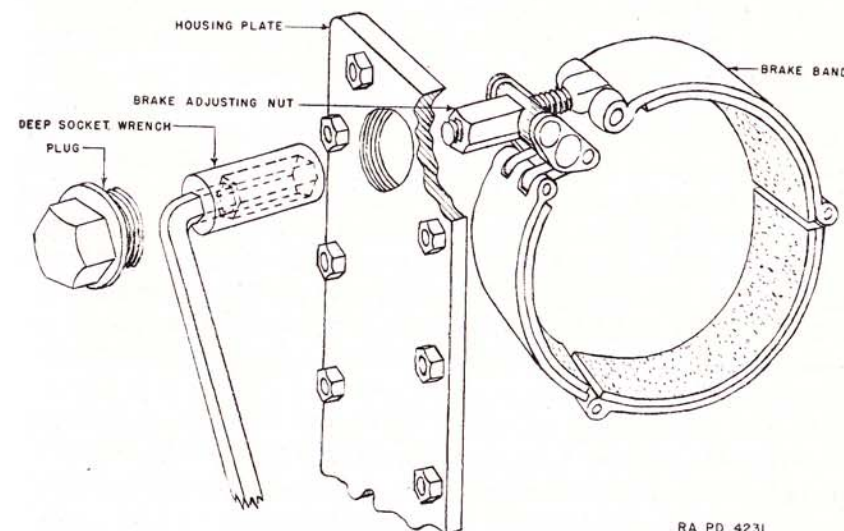

FIGURE 45.—Adjustment of steering brake.
**87. Adjustment of steering brakes.**—The adjustment of the steering brakes is extremely important and only specially qualified mechanics should be permitted to perform it. Figure 45 illustrates the adjustment of the steering brake. Both bands should be adjusted equally and the linkage to the levers then set so that the bands contact the drum at the same time when the steering levers are pulled back evenly.